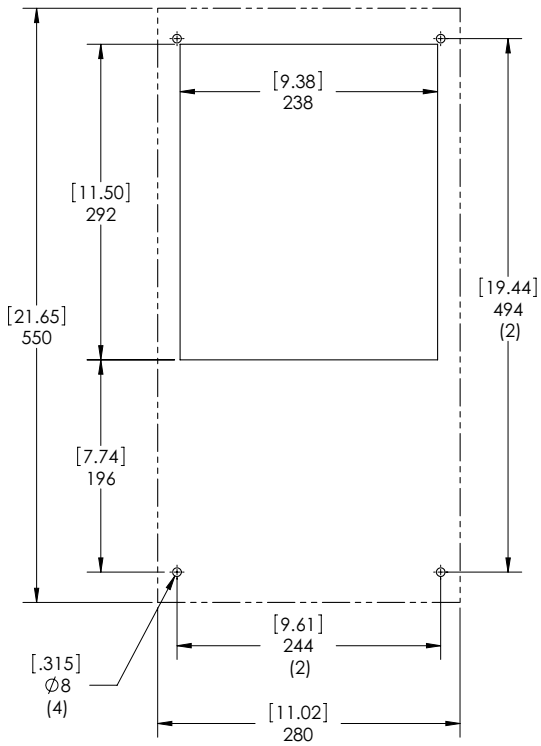
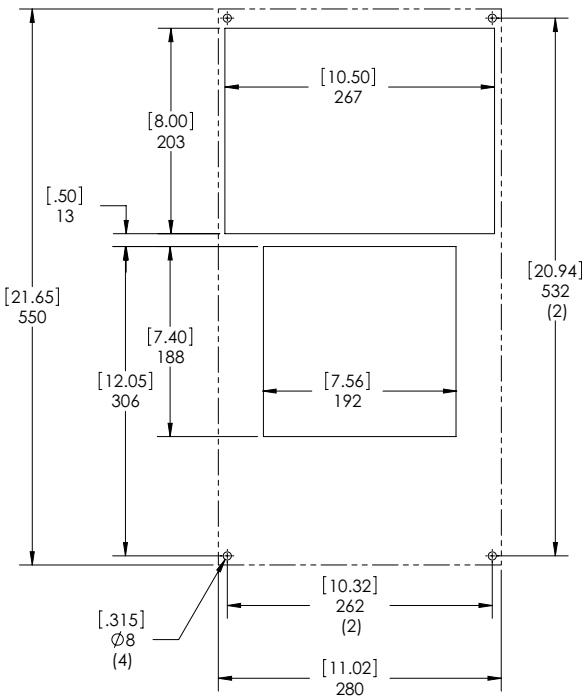
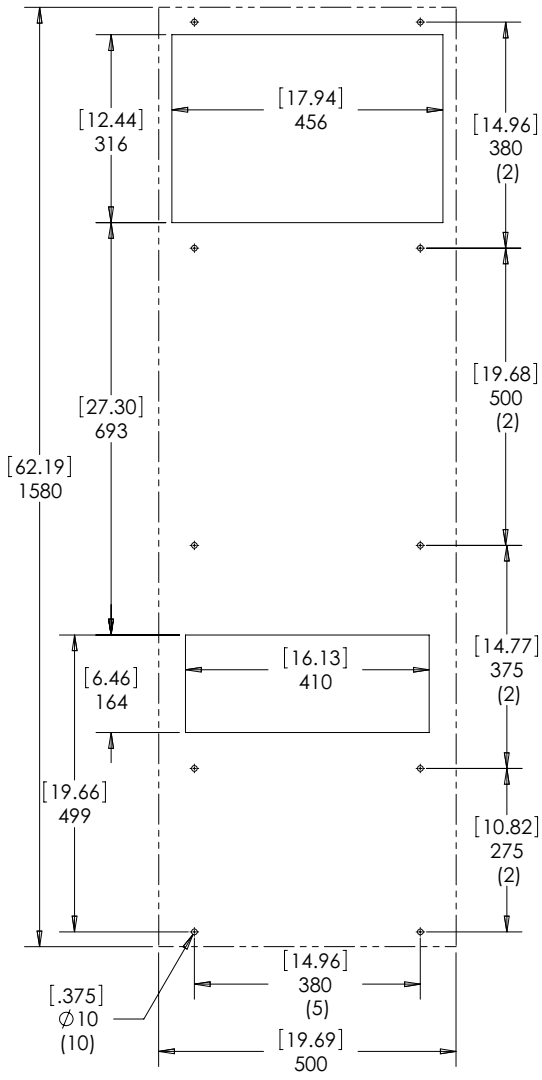

Figure 5
Figure 6
Figure 9
2. See Figure 5 or Figure 6 or Figure 7 or Figure 8 or Figure 9 for the enclosure cutout diagrams, depending on the unit being installed.